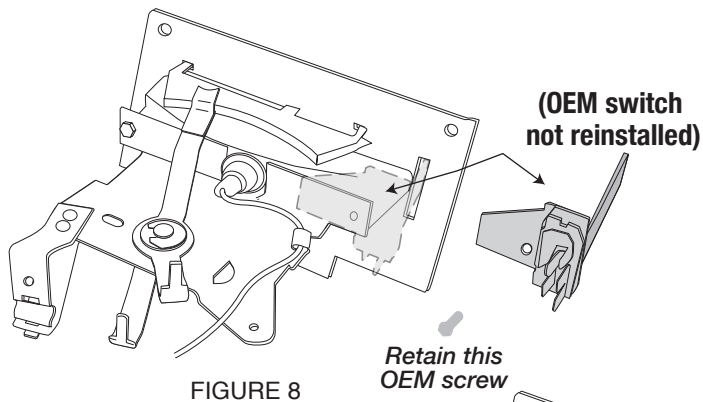

FIGURE 8
(Figure 8)
- 2) Remove the OEM blower switch knob. Retain the screw, you will use it again shortly. Remove the control cables and the original blower switch and set aside (these will not be reused, see figure 8).